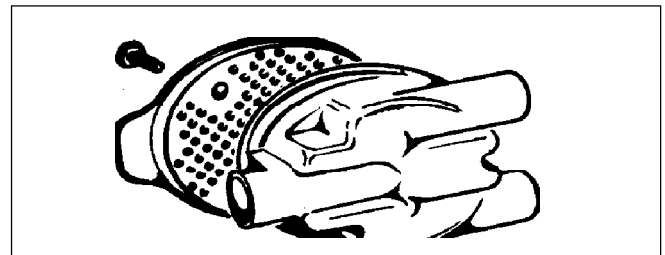

Fig. 4
- For disassembly, first remove the muffler cover group (Fig 4).
NOTE - The internal holes of the muffler (Fig 4) must be always perfectly clean and should not show any moulding defects (burrs) otherwise carburation may be affected.